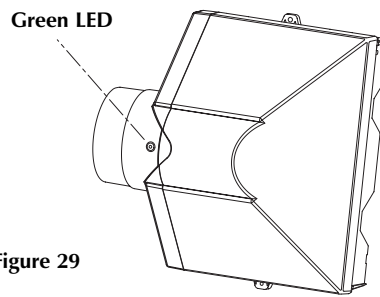

Figure 29
3. Depending on your furnace type the unit should turn on within approx 60 seconds of the furnace entering the heating cycle. You will know the humidifier is operating because the Green LED on the front of the side panel (fig 29) will turn ON.
7. The humidifier should turn back on and continue to run. During this running test check for and repair any leaks. Let the unit run 3 to 5 minutes and then turn your furnace thermostat down. IT IS IMPORTANT TO ALLOW THE FURNACE TO CYCLE OFF VIA THE THERMOSTAT AND NOT THE MAIN FURNACE SWITCH, AS ALL FURNACES WILL RUN A COOL DOWN TO ALLOW HEAT TO CIRCULATE OUT OF THE FURNACE HEATING CHAMBER. The humidifier will sense the temperature drop and shut off (this will occur depending on your furnace, from 60 seconds before the furnace shuts off to 60 seconds after the furnace shuts off.) You will know the humidifier has shut off because the green LED on the front of the side panel (fig 29) will shut OFF